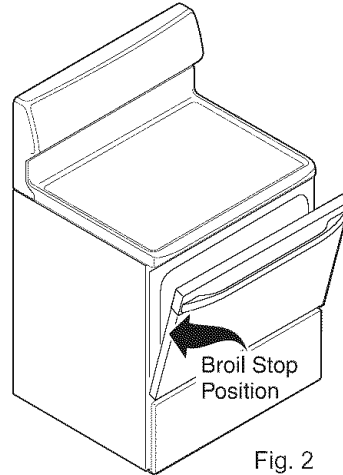

Fig. 2
6. Place the pan on the oven rack. **Open the oven door to the broil stop position** (See Fig 2).